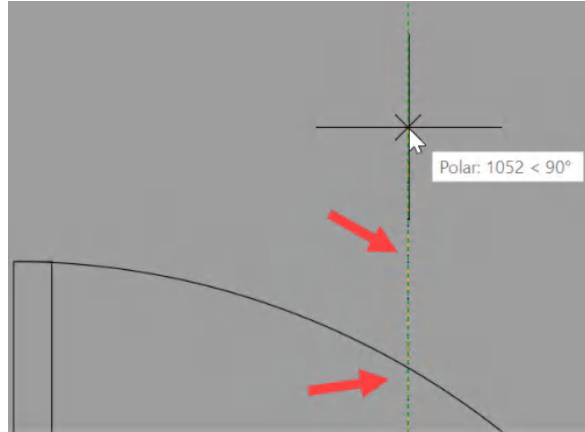

Figure 11.14: The vertical reflection line going through the arc, using Polar tracking
7. You will now see that you are working from a point selected that is exactly a midpoint between the previously selected points, hence the name **Mid Between 2 Points**. Move the cursor upward, ensuring that **Polar Tracking** (*POLAR*) is active on the status bar. Move the vertical reflection line up the polar tracking line through and over the arc, as shown in *Figure 11.14*.